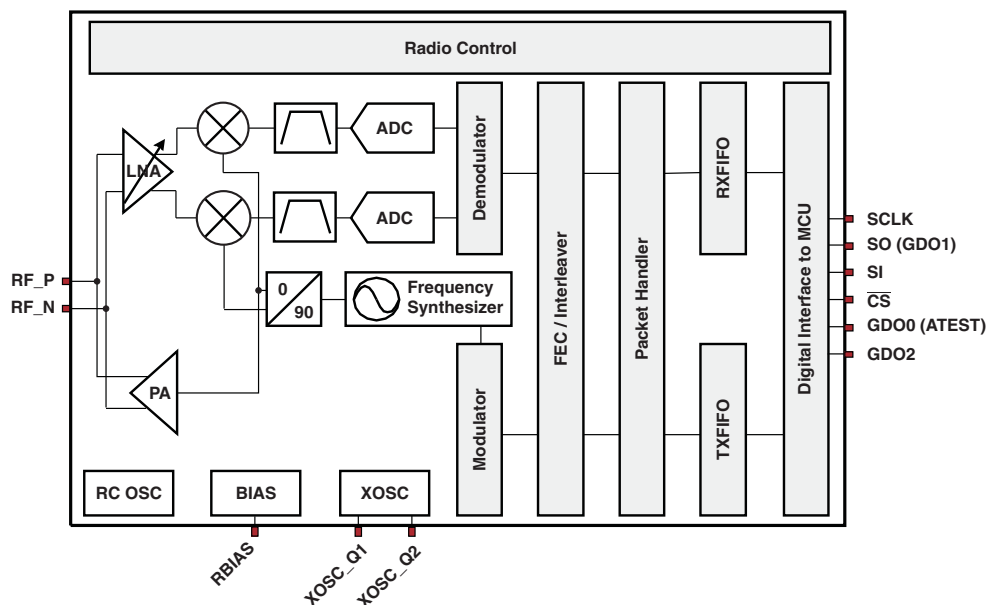

Figure 3-1. Simplified Block Diagram
A simplified block diagram of CC11x1-Q1 is shown in Figure 3-1. The CC11x1-Q1 devices feature a low intermediate frequency (IF) receiver. The received radio frequency (RF) signal is amplified by the low-noise amplifier (LNA) and down-converted in a quadrature (I and Q) to the IF. At IF, the I/Q signals are digitized by the analog-to-digital converters (ADCs). Automatic gain control (AGC), fine channel filtering, and demodulation bit/packet synchronization is performed digitally.